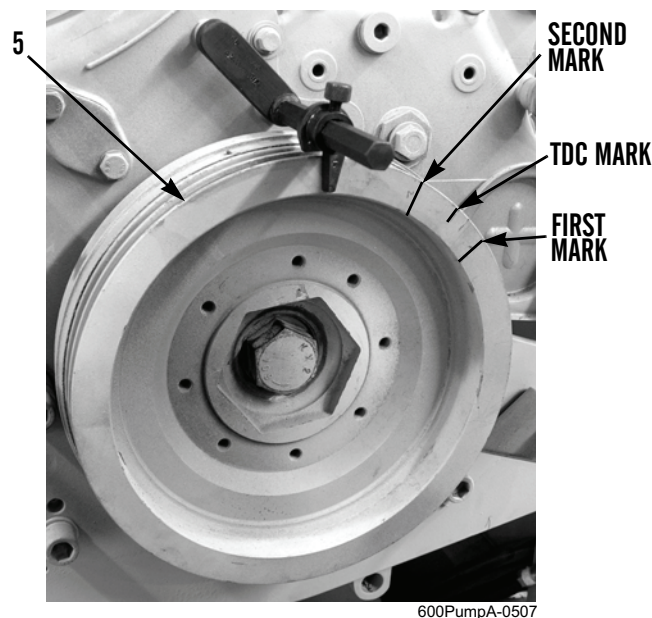

Figure 4. Determining TDC Mark on V-belt Pulley.
16. Measure midpoint between first mark and second mark on V-belt pulley (Figure 4, Item 5). This is top dead center (TDC). Mark V-belt pulley to indicate TDC.